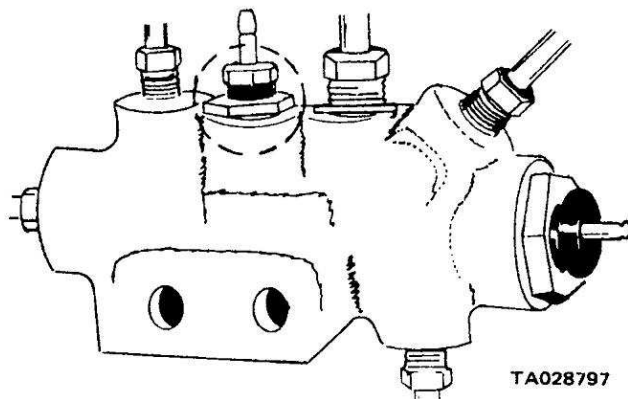

Figure 2-48. Brake-Failure Warning Light Switch.
(1) Have an assistant turn the ignition switch to the ON position and depress the service brake pedal while he watches the warning light. Then open the left front wheel cylinder bleeder. The warning light should light up.
(2) If the light fails to illuminate, disconnect the sending wire from the switch located in the brake line "T" fitting (figure 2-48).
(3) Press the disconnected sending wire against a good ground. If the warning light now illuminates, replace the brake warning switch. If it does not light, check and repair the wiring harness between the switch and the light.
(4) Once the brake warning light is working, refill the brake master cylinder if required, and bleed the brakes (paragraph 2-81).